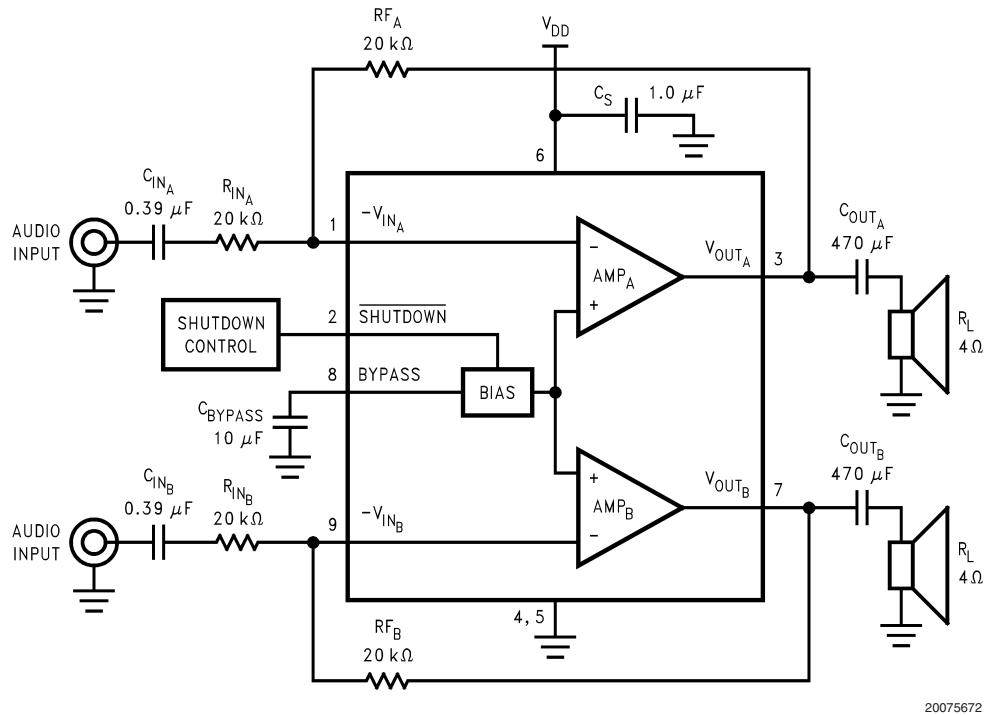

FIGURE 3. Typical LM4940 Stereo Amplifier Application Circuit
As shown in Figure 3, the input resistor ( $R_{\text{IN}}$ ) and the input capacitor ( $C_{\text{IN}}$ ) produce a high pass filter cutoff frequency that is found using Equation (7).
As an example when using a speaker with a low frequency limit of 50Hz,  $C_i$ , using Equation (7) is  $0.159\mu\text{F}$ . The  $0.39\mu\text{F}$   $C_{\text{INA}}$  shown in Figure 3 allows the LM4940 to drive high efficiency, full range speaker whose response extends below 30Hz.